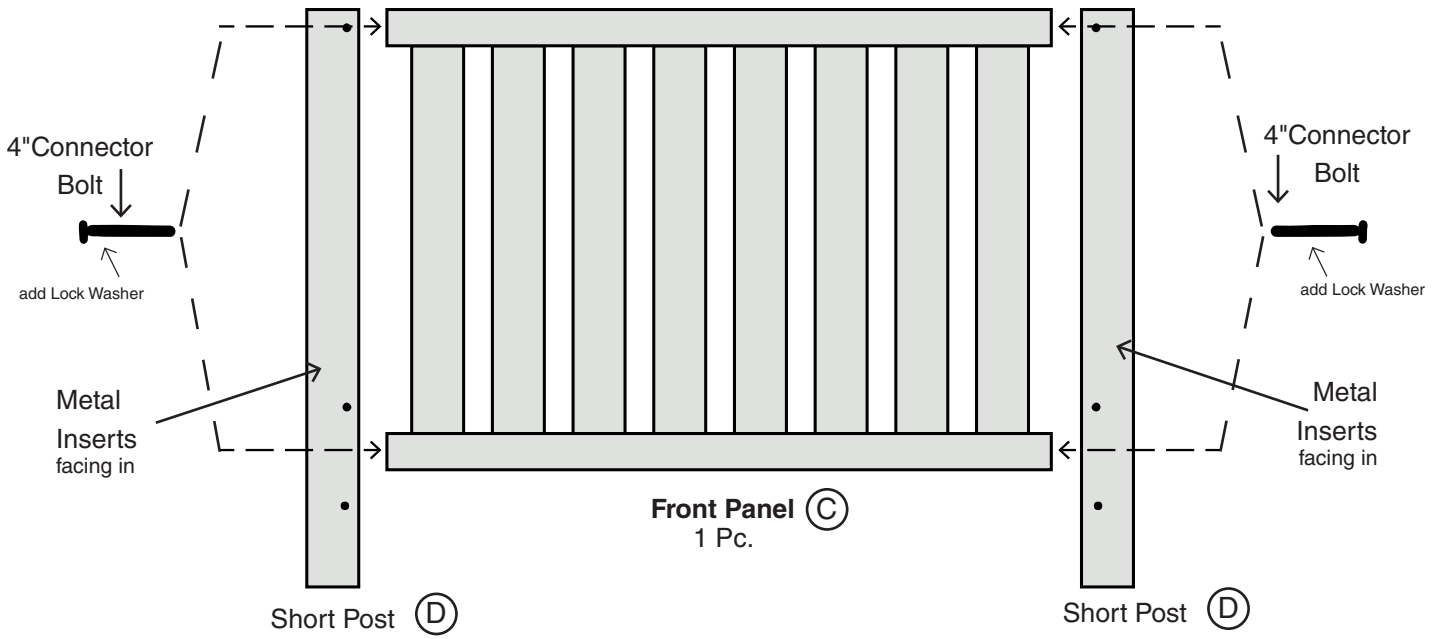

FIGURE 1
1. Attach short posts (D) to ends of Front Panel (C) with four—4" Connector Bolts with lock washers, using allen wrench provided. Connector Bolts screw into metal inserts in ends of panels. See Figure 1. Make sure panel is centered on posts. Keep top of panel 1/16" lower than top of posts. Turn bolts snug. **DO NOT OVERTIGHTEN!** Note: Metal inserts on posts (D) need to be facing panel (C).
2. Attach side panels (A) to front posts (D) with four — 2 3/8" Connector Bolts with lock washers. Attach back posts (E) with four — 2 3/4" Connector Bolts with lock washers. Turn bolts snug. Do not overtighten! Attach two Connector Caps with 1" set screw (hand tighten) in remaining holes on back posts, and attach two Connector Caps with 3/4" set screw (hand tighten) in remaining holes on front posts.